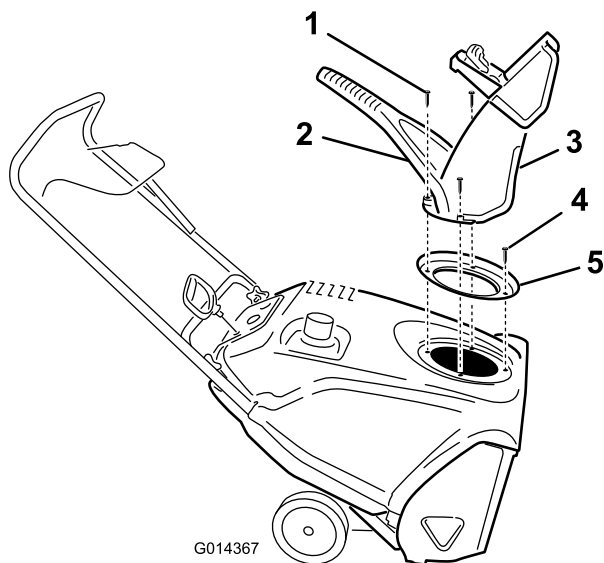

Figure 33
3. Remove the discharge chute, the discharge chute handle, and the chute seal by removing the 3 large screws and one small screw (Figure 33).